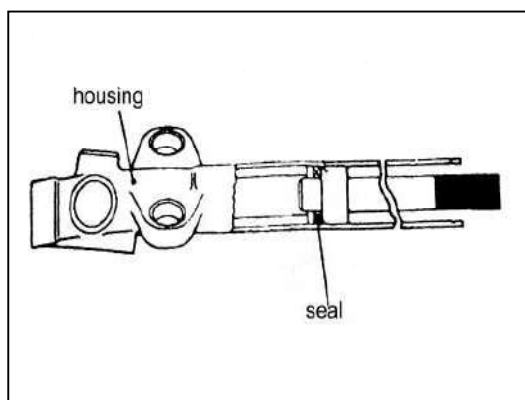

Fig 17-33
1) OIL SEAL INSTALLATION (See fig 17-33)